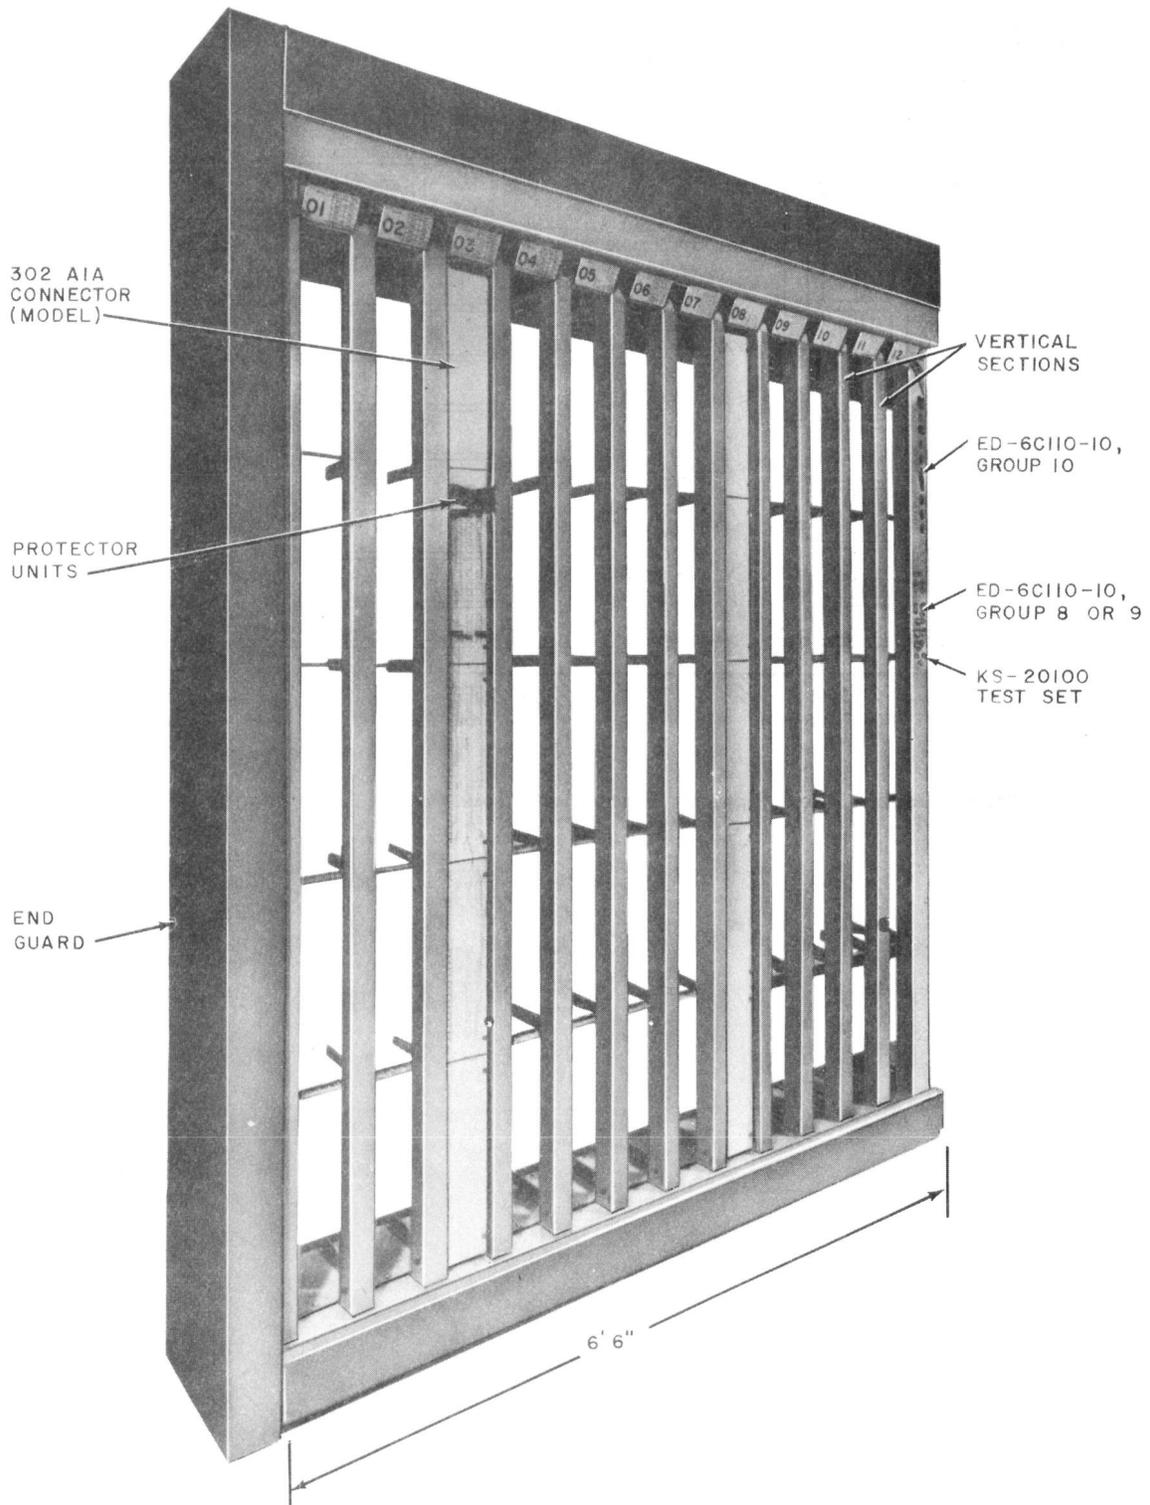

Fig. 3—Modular Protector Frame (ED-1A220-31)
3.01 The modular protector frame shown in Fig. 3 is used to mount only the 302-type connector. The protector frame is used in conjunction with the COSMIC and ESS modular distributing frames.